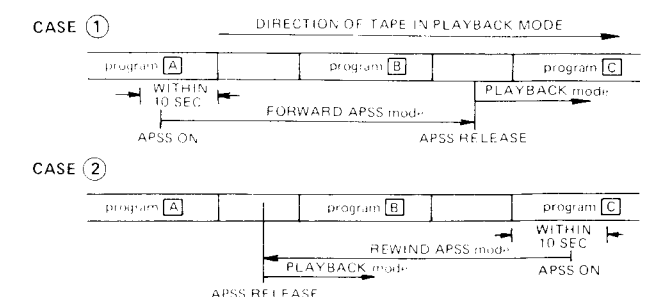

Figure 9
- ① When the FORWARD APSS is operated within about 10 seconds (as measured in playback mode) after termination of a program.
- ② When the REWIND APSS is operated within 10 seconds after the start of a program. In the above-mentioned cases ① and ② the part adjacent to the concerned program may be also fast forwarded (or rewound) as shown in Figure 9.